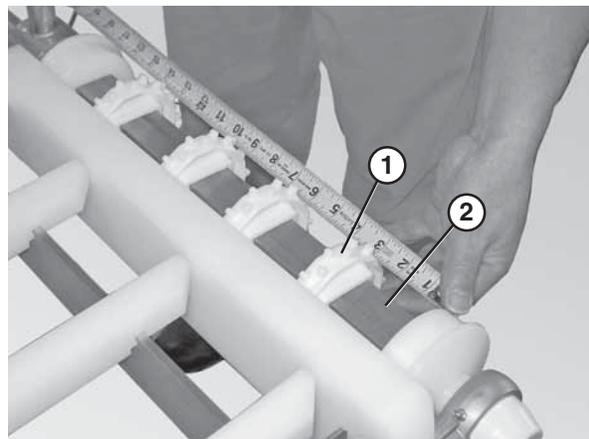

Figure 30
2. Evenly space the sprockets (**Figure 30, item 1**) along the drive spindle (**Figure 30, item 2**).
3. Wrap the belt around the conveyor, making sure the sprocket teeth (**Figure 30, item 1**) have engaged the belt.